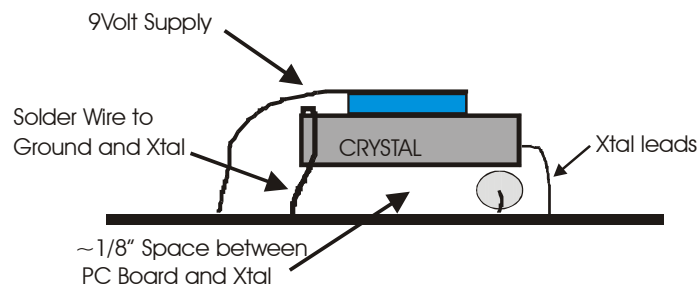

Figure 6. Crystal and PTC-60 installation detail.
6. Install the crystal as shown in Figure 6. Do not install the PTC1. It will occur later in the assembly instruction after testing. The topside component placement shows the crystal standing up but lay it down over L2 as shown in this pictorial. Again, do not install the PTC.
4. After the LO has been tested, remove the DC power from the pallet and solder the cans of Q1 and Q2 to the ground plane. Next find and un-solder one lead from PTC1. Attach the PTC to the crystal as shown in figure 6. Attach a wire from the crystal case to ground. Keep the lead as short as possible. The voltage lead is attached to the output pad of VR1, labeled on the component placement as +9. Power up oscillator to verify operation. If OK, attach the shield over the oscillator with the two 4-40 x 1/4" screws and two #4 flat washers. Be sure not to short the output